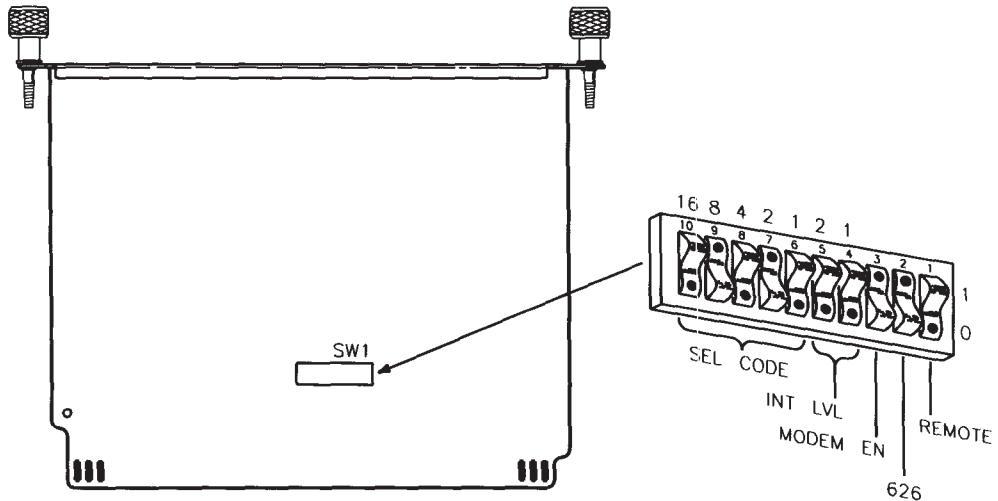

Figure 5-31.
- a. Find the group of switches labeled SW1 by referring to Figure 5-31. Switches 6 thru 10 in this group determine the select code.
- a. Find the group of switches labeled SW1 by referring to Figure 5-31. Switches 4 and 5 in this group determine the interrupt level.
- a. Find the group of switches labeled SW1 by referring to Figure 5-31. Switch 3 in this group is the MODEM ENable switch.
- If you intend to connect an HP 2686A *LaserJet* printer, an HP 92205A/C Hayes *Smartmodem*, or a uucp, set this switch to *1* as shown in Figure 5-31.
- If you intend to connect a terminal or the HP 39800/01A bar code reader, set this switch to *0*, which is *opposite* that shown in Figure 5-31.
- a. Find the group of switches labeled SW1 by referring to Figure 5-31. Switch 2 in this group is the 626 switch.
- b. Set the 626 switch to *1* as shown in Figure 5-31.
- a. Find the group of switches labeled SW1 by referring to Figure 5-31. Switch 1 in this group is the Remote switch.
- If you are connecting a terminal to this interface and want this terminal to be the system console, set this switch to *1*, which is *opposite* that shown in Figure 5-31.
- If you are connecting a terminal to this interface but *do not* want this terminal to be the system console, or if you are connecting any other device, set this switch to *0* as shown in Figure 5-31.